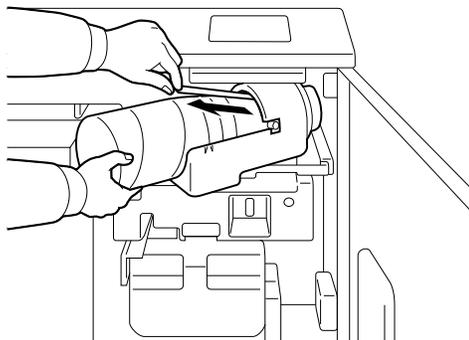

Figure 5-32
5. While supporting the Toner Bottle with your hand, gently pull the toner seal off of the Bottle as shown in Figure 5-32.